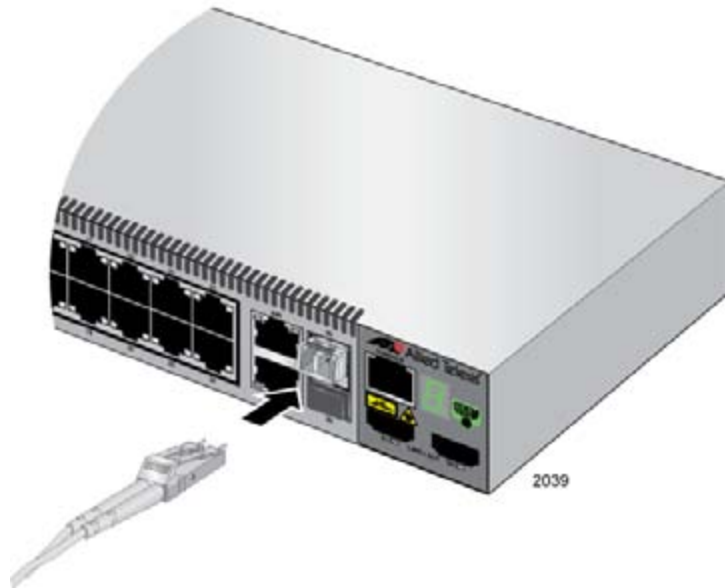

Figure 49. Connecting the Fiber Optic Cable to the SFP Module
7. Connect the fiber optic cable to the SFP module, as shown in Figure 49.